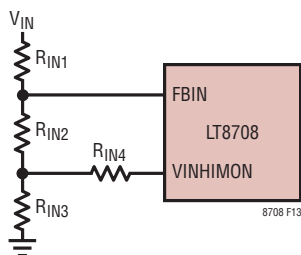
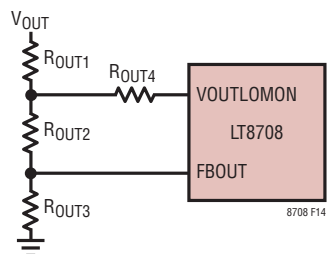

Figure 13. Single Divider for VINHIMON and FBIN
Figure 14. Single Divider for VOUTLOMON and FBOUT
2. Connect a resistor divider between  $V_{IN}$ , FBIN, VINHIMON and GND to configure the  $V_{IN}$  regulation and overvoltage thresholds (see Figure 13). Connect a resistor divider between  $V_{OUT}$ , VOUTLOMON, FBOUT and GND to configure the  $V_{OUT}$  regulation and under-voltage thresholds (see Figure 14).
$R_{IN1-4}$  and  $R_{OUT1-4}$  are shown in Figure 13 and Figure 14.